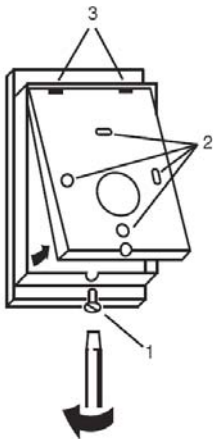

Fig.2
- Remove single screw from underneath unit **Fig.2 (1)**
- Install the base with the appropriate screws and fixings for the wall type (not supplied) **Fig.2 (2)**
- Position the unit on the base, first hooking the two recesses in the inside top over the hooks on the base then gently swing the unit down so that the pins engage in the connector **Fig.2 (3)**
- Finally, secure with single fixing screw underneath **Fig.2 (1)**.